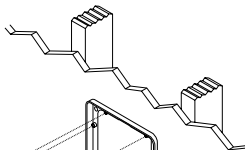

Figure 17
7. Attach the frame to the bracket by screwing the frame to the bracket using the supplied screws. Do not overtighten the screws, this will distort the frame and the grilles will not fit (this is not permanent, just loosen the screws and the grille will pop in). The screws should pull the frame and bracket together (sandwiching the drywall) so that the frame is absolutely flush with the wall surface. There should be no gaps between the wall and the frame (See Figure 17).